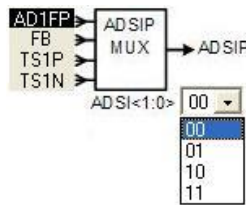

Figure 40
- (1) Click the network name with mouse left key, then AD1IP can go to the specified network
- (2) Click mouse left key and Figure 40 will be displayed, then on-off network can be selected